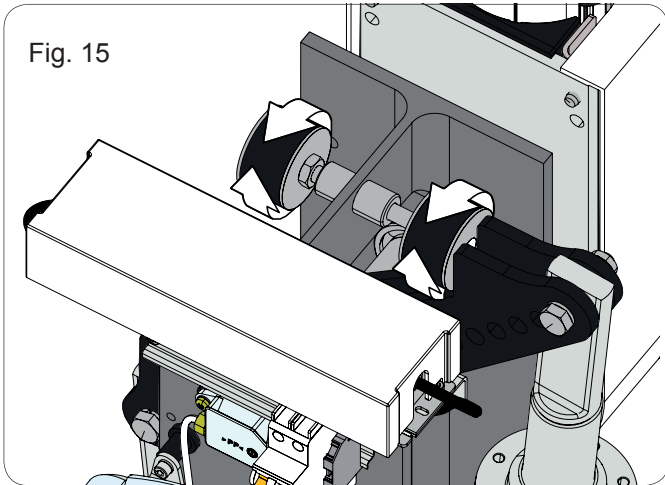

Fig. 15
- Adjust the opening and closing mechanical stops as shown in Fig. 15, and tighten the lock nut.